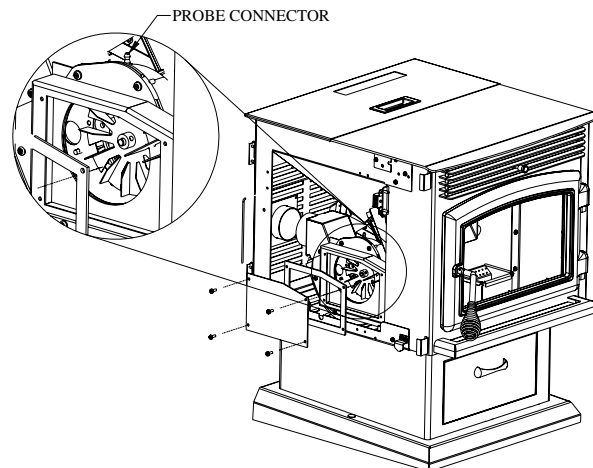

Figure 48
- **Blower Cleaning** – Over a period of time, ashes or dust may collect on the blades of both the combustion/exhaust blower and convection blower. Periodically, the blowers should be cleaned as the ash and dust can impede performance. The combustion/exhaust blower can be accessed by opening the left, right, and back panels.(Figure 48) To clean the blades in the combustion blower housing, insert the vacuum tip through the air inlet damper opening located on the side of the combustion blower housing. Clean thoroughly. To clean the blades in the exhaust blower housing, use a screw driver to remove the cleaning access panel located on the side of the metal box covering the housing. Insert the vacuum tip through the cleaning outlet and clean the blades thoroughly.